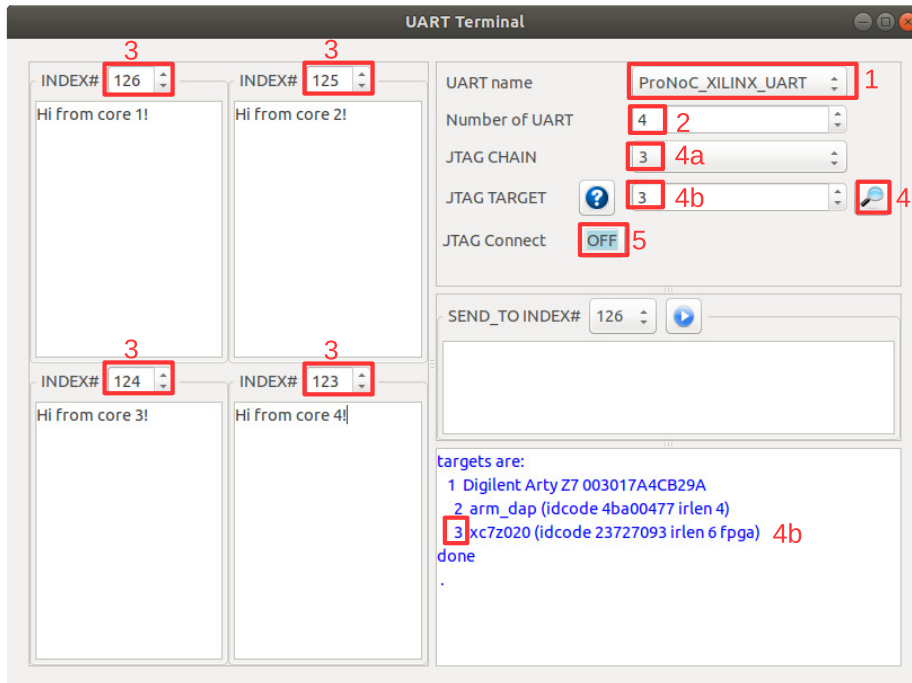

Figure 11.1: Uart terminal snapshot (Xilinx FPGA configuration).
Figure 11.1 illustrates the snapshot of the UART GUI. The following settings are required in order to connect to UART modules:
- (b) For Xilinx FPGAs you need to set the FPGA device target number in the JTAG chain. Figure 11.1 shows an example for Digilent Arty-Z7 XILINX FPGA board. The FPGA device is `xc7z020` which is the 3rd target in jtag chain.